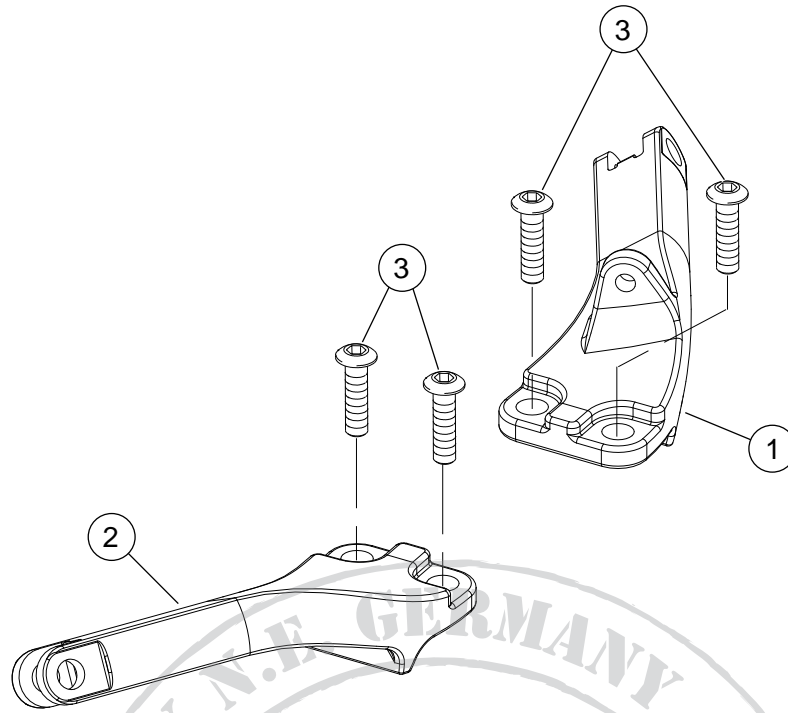

Figure 1. Passenger Support Bracket
See Figure 1 and Table 1.
6. See Figure 1. From the kit and on the left side of motorcycle, install chrome passenger footpeg support (1) using saved fasteners (3). Tighten fasteners to 25-35 ft-lbs (34-47.4 Nm). Repeat for right side chrome passenger footpeg support (2) and fasteners (3).